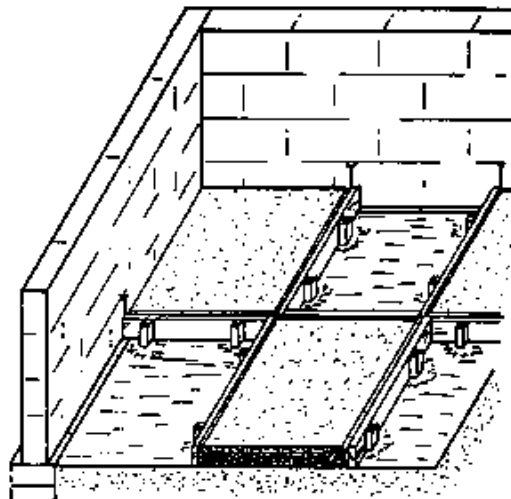

Fig. 4
p. If a smoother surface is desired, finish off with a steel float. Make a chamfer along each edge next to the edge board to form half of the "V" groove above the shrinkage gap (Figs. 4 & 6).